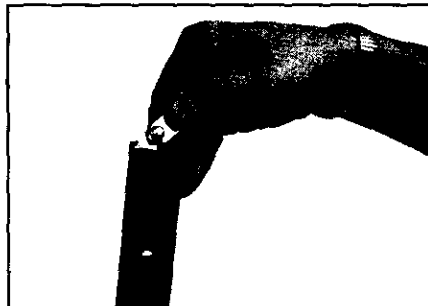

Figure 4
4. Install snap buttons into the top end of the straight legs. Carefully guide the snap buttons into position with a screw driver until it pops into the large through hole in the top of the legs. Straight legs will be installed on the **left** end of the frame. Figure 4.